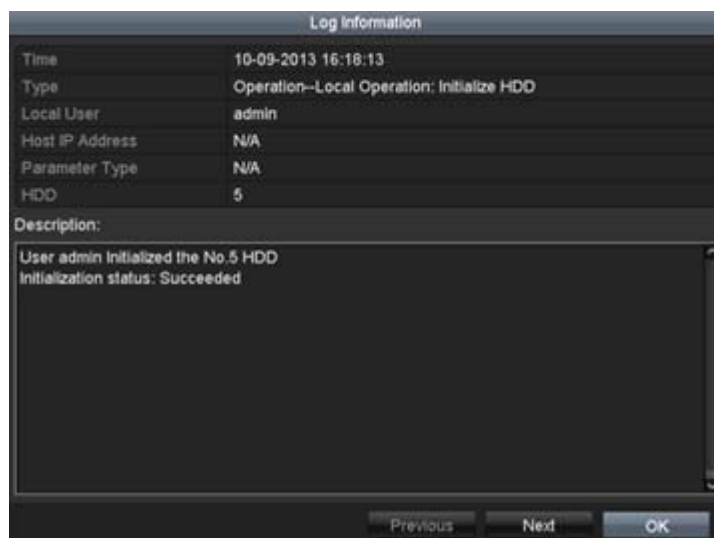

Figure 15. 4 Log Details
- If you want to export the log files, click the **Export** button to enter the Export menu, as shown in *Figure 15. 4 Log Details*.